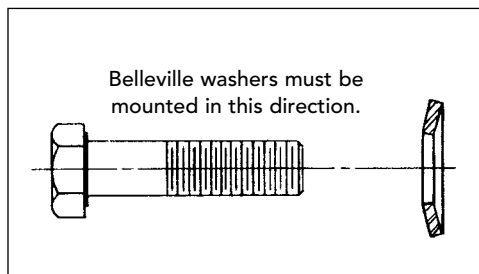
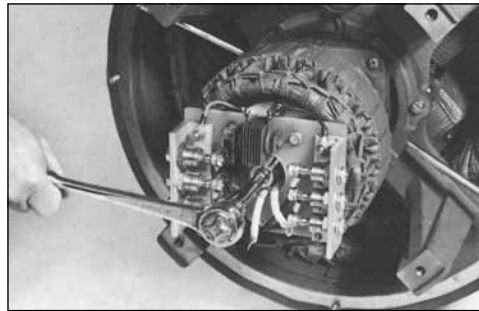

Figure 6-72
Figure 6-73
Insert the capscrew and belleville washer (figure 6-72) through the mounting hole in the aluminum standoff plate and secure to the shaft (figure 6-73). Tighten the capscrew until the armature seats on the shaft. Torque to 84 ft-lb (114 N-m) for 1/2" bolt or 300 ft-lb (407 N-m) for 3/4" bolt.
3. Position the exciter field leads at the left (9 o'clock) inboard position. Using a suitable lifting device, mount the exciter stator on the front end bracket mounting pads and align the mounting holes (figure 6-75). Mount with the capscrews and belleville washers (figure 6-72). Torque the capscrews to 60 ft-lb (81 N-m). Route and secure the exciter stator leads away from any moving parts.